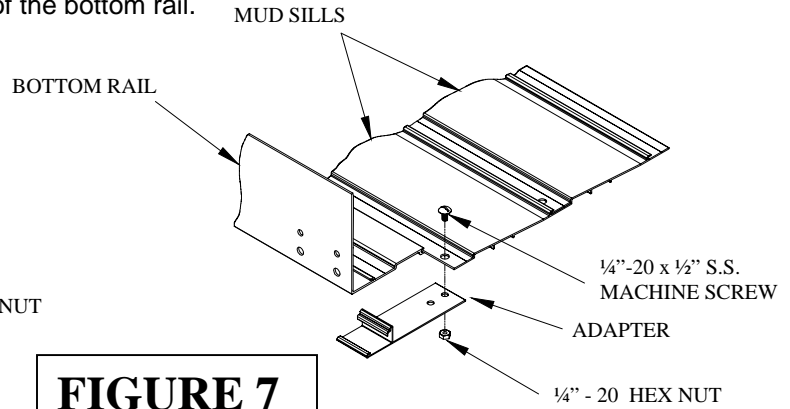

FIGURE 7
Step 8: Assemble the adapter to the mud-sill as shown in Figure 7.